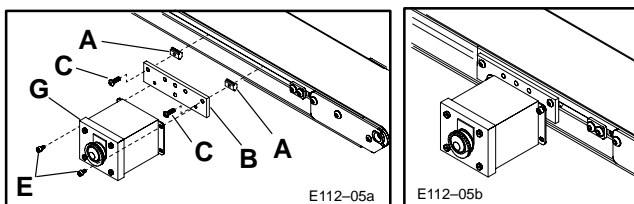

Figure 5: E-Stop Horizontal Mounting to Conveyor T-slot
- a. Refer to Figure 5 and disassemble and re-attach Pushbutton Box assembly to the Mounting Plate and Mounting Brackets in the manner shown.
- c. Then, refer to Figure 5 and attach assembly to the two Single Drop-in T-bars, using the M6 x 16 mm Button Head Cap Screws. Tighten Screws with 4 mm Hex Key Wrench provided.